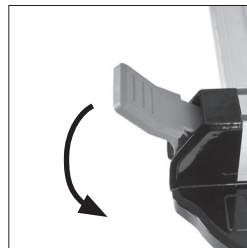

Fig. 20
- Push the handle down to lock the Rip Fence in place (**Fig. 20**).